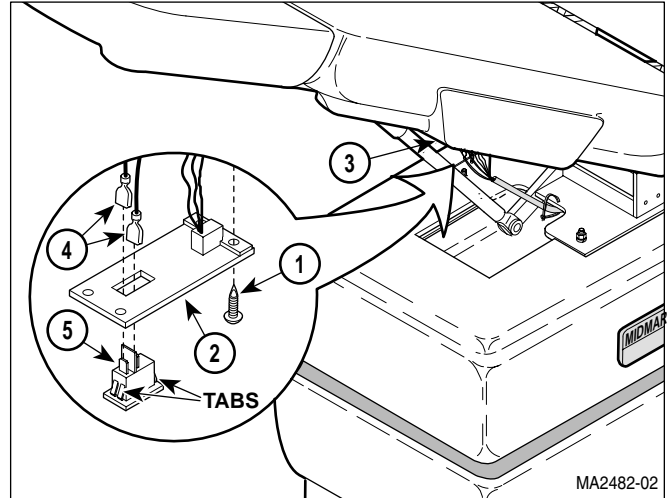

Figure 4-6. Control Disable Switch Removal / Installation
- (2) Remove four screws (1, Figure 4-6) and partially separate control cover (2) from plastic seat section (3).
- (3) Disconnect two wires (4) from control disable switch (5).
- (4) Press on four tabs of control disable switch (5), while simultaneously pulling control disable switch out of control cover (2).